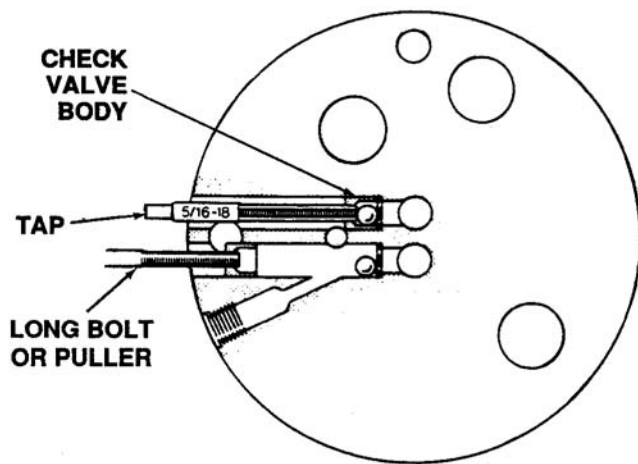

Figure 6-93. Removing Check Valve Bodies
- h. Using a four blade 5/16-18 tap, tap holes in the check valve bodies. Insert a long bolt or a puller to remove them from the pintle housing and discard. See Figure 6-93.